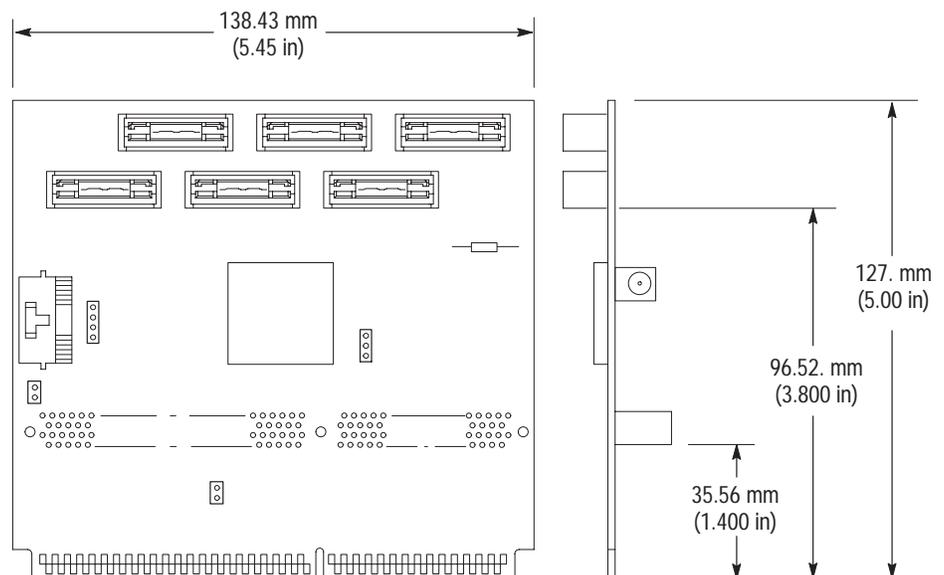

Figure 2-5: Dimensions of the SC242 probe adapter
**Dimensions** Figure 2-5 shows the dimensions of the SC242 probe adapter.